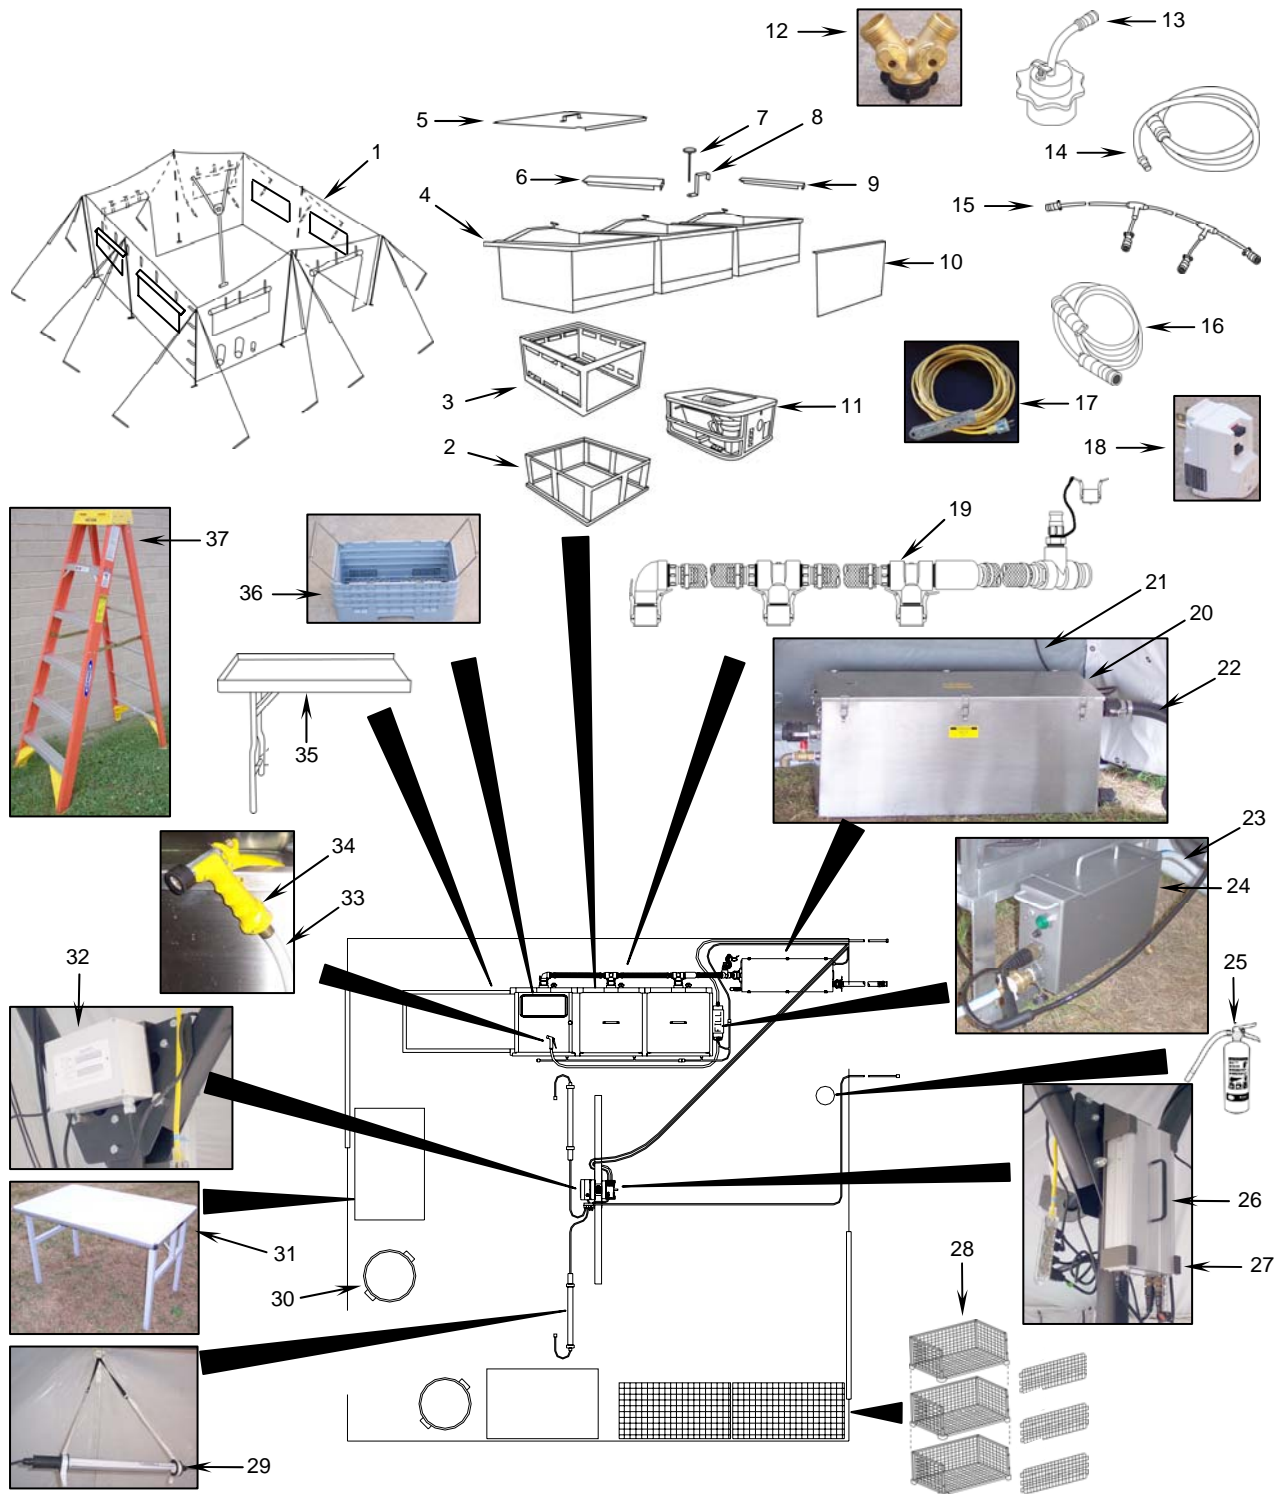

Figure 2. Major Components of Food Sanitation Center FSC-2.
- Tent (**Figure 2, Item 1**). Modular General Purpose Tent System (MGPTS). Contains all food sanitation equipment and protects personnel from weather.
- Base Rack (**Figure 2, Item 2**). Three, one to support each of the three burner racks and sinks.
- Burner Rack (**Figure 2, Item 3**). Three, one to hold each of the three modern burner units (MBUs).
- Sink Assembly (**Figure 2, Item 4**). Three, one each to wash, rinse, and sterilize pots, pans, and utensils.
- Sink Cover (**Figure 2, Item 5**). Three, one for each sink to hold in heat.
- Sink coupler heat shield (**Figure 2, Item 6**). Two, to link the three sinks together and designed to shield worker from hot metal.
- Thermometer (**Figure 2, Item 7**) and Bracket (**Figure 2, Item 8**). Three, one for each sink to measure water temperature.
- Sink Edge Heat Shield (**Figure 2, Item 9**). One, over the right edge of the right sink to shield worker from hot metal.
- Sink Front Heat Shield (**Figure 2, Item 10**). Three, one over the front edge of each sink to shield workers from hot metal.
- Modern Burner Unit (MBU) (**Figure 2, Item 11**). Three JP-8 fuel-fired burner units used to heat water in sinks.
- Y-adapter (**Figure 2, Item 12**). Used to connect 50-ft fresh water hose to source if another hose, such as for the containerized kitchen (CK), is already connected to the source.
- Fuel can adapter (**Figure 2, Item 13**). Part of MBU Kit for fueling the MBUs.
- 20 ft fuel line (**Figure 2, Item 14**). Part of MBU Kit for fueling MBUs.
- 2-branch cables (**Figure 2, Item 15**). Two cables. Part of MBU Kit for providing 24 VDC to MBUs and sink fill pump assembly.
- 25 ft, 24 VDC cable (**Figure 2, Item 16**). Part of MBU Kit for providing 24 VDC to 2-branch cables.
- 100 ft, 110 volt, 4-outlet extension cord (**Figure 2, Item 17**). For providing AC power to FSC-2.
- GFCI (ground fault circuit interrupter) (**Figure 2, Item 18**). Plugged into AC power source if source is not already protected by a ground fault circuit interrupter.
- Three-Sink Drain Hose Assembly (**Figure 2, Item 19**). Drains waste water from the sinks to a grease separator. Contains a tee for connecting the waste hose from other source such as the CK.
- Grease Separator (**Figure 2, Item 20**). Separates grease and solids from water drained from sinks.
- Grease Separator Power Cable (**Figure 2, Item 21**). Provides 24 VDC to grease separator.
- 50-ft Drain Hose (**Figure 2, Item 22**). Drains gray water from grease separator to gray water reception facility (not part of FSC-2).
- 50-Foot Fresh Water Hose (**Figure 2, Item 23**). Delivers fresh water to the sink fill pump assembly.
- Sink Fill Pump Assembly (**Figure 2, Item 24**). Pumps fresh water through 15-foot sink fill hose on demand when the water nozzle is operated. Fresh water used to fill the sinks and for other general use.
- Fire Extinguisher (**Figure 2, Item 25**).
- Power Converter (**Figure 2, Item 26**) and Hanger (**Figure 2, Item 27**). Power converter converts 120 VAC to 24 VDC to power MBUs, sink fill pump, and grease separator.
- Storage Rack Assembly (**Figure 2, Item 28**). Six, stacked in two groups of three racks. Each storage rack has a detachable grid that can be used as a rack front or a rack shelf.
- Electric Light (**Figure 2, Item 29**). Two fluorescent light assemblies with straps for night operation.
- Waste Receptacles (**Figure 2, Item 30**). Two, with lids, for holding food waste.
- Work Table (**Figure 2, Item 31**). Two, used as work area.
- CO Monitor (**Figure 2, Item 32**). Monitors carbon monoxide (CO) levels inside the tent. Provides visible and audible alarm if CO exceeds acceptable level.